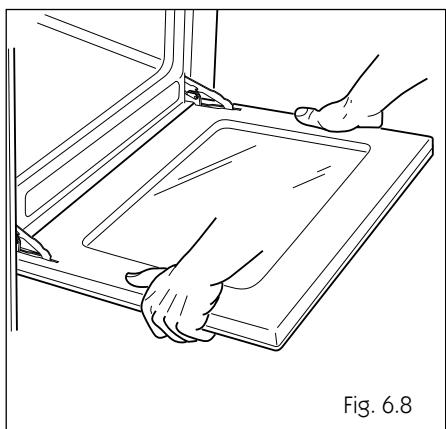

Fig. 6.8
- Grip the door (as indicated in figure 6.8) and refit it in reverse order of removing procedure.